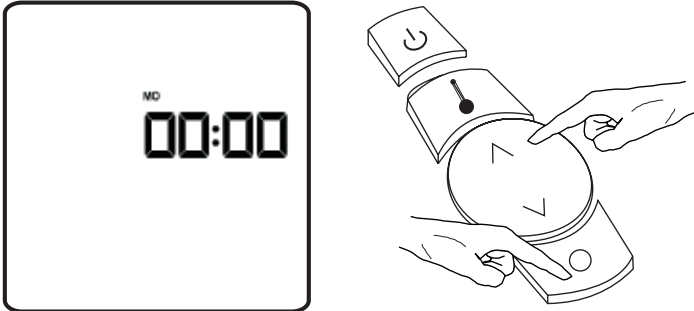

Figure 5
1. Press the transmitter's adjustment button to adjust the hour. **See Figure 5.**
2. Press the menu button to save the value. **See Figure 5.**